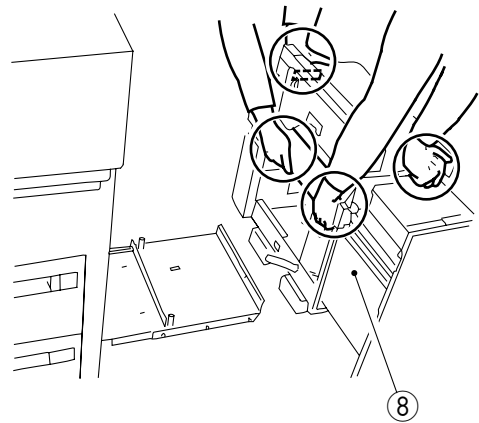

Figure 8-353
- 5) Holding the deck as shown (Figure 8-353), and place it on the stack of paper prepared in step 1).